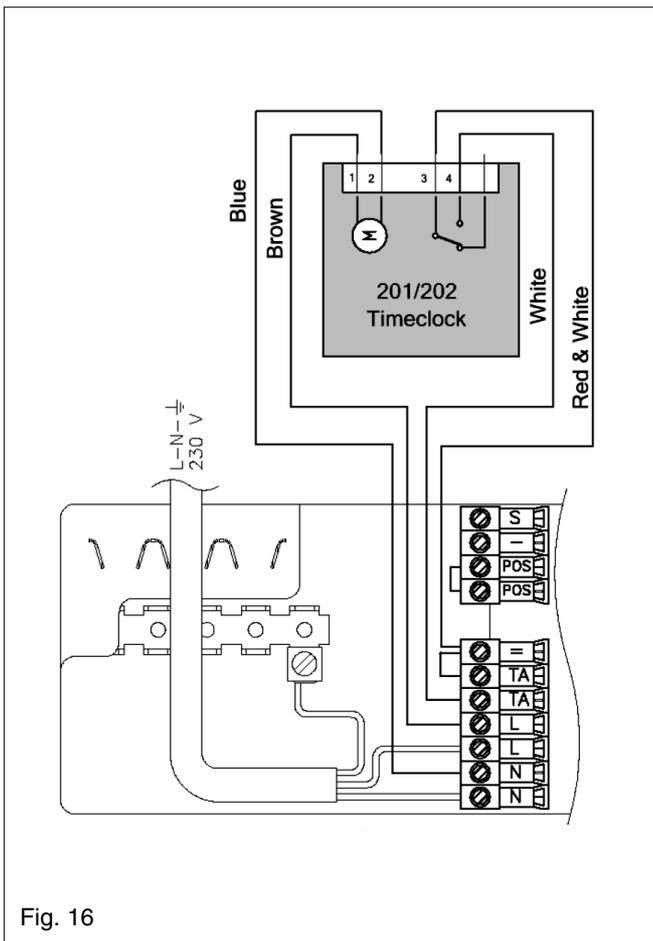

Fig. 16
4.7.3 CONNECTING THE MAINS (230V) INPUT (see fig. 16)
Connect the supply cable wires (LIVE, and NEUTRAL) to their corresponding terminals on the appliance terminal block. Connect the EARTH wire to the EARTH block (see fig. 16) ensuring that it's left slightly longer than the others, this will prevent strain on the EARTH wire should the cable become taut.
- Using the clock wiring harness supplied in the accessory pack, connect the 4-wires to the clock as shown in fig. 16.